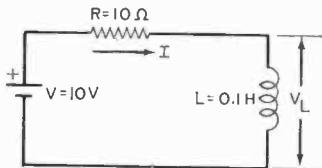

Fig. 5
Ex. 3. Referring to Fig. 5, determine the current  $I$  at (a)  $t = 0$  and (b)  $t = \infty$ . (c) What is the time constant for the circuit? Sol. (a)  $I(0) = 0$ . (b)  $I(\infty) = V/R = 10/10 = 1$  A. (c)  $T = L/R = 0.1/10 = 0.01$  s = 10 ms.
Ex. 4. For the circuit in Fig. 5, find the voltage across the inductor, at (a)  $t = 0$  and (b)  $t = \infty$ . Sol. (a) Because the inductor acts like an open circuit at  $t = 0$ ,  $V_L(0) = 10$  V. (b) Because the inductor acts like a short circuit in steady state,  $V_L(\infty) = 0$ .
**D. Functions of Time.** For times between  $t = 0$  and  $t = \infty$ , the current and voltage as functions of time for the circuit in Fig. 5 may be expressed by:  $i(t) = (V/R)(1 - e^{-tR/L})$  and  $v_L(t) = V e^{-tR/L}$ .